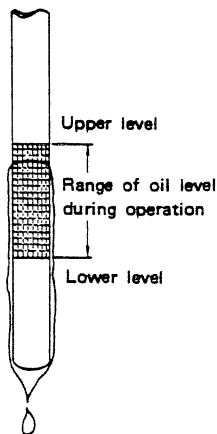

Fig. 3-2. Dip Stick
- (1) Check while the engine is cold. (Refer to Fig. 3-2)
- (2) Check during warming up (Refer to Fig. 3-2)